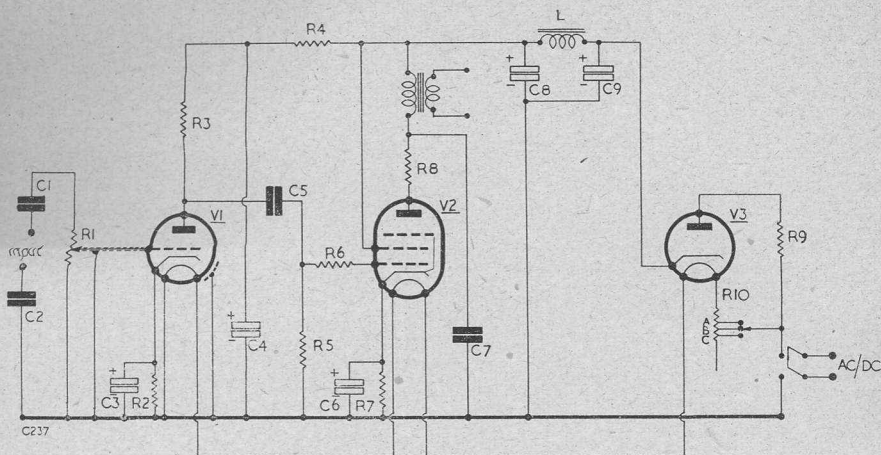

Fig. 1. Circuit of amplifier, and component valves, etc.
Fig. 1. (A) Showing the conventional fullwave rectifier circuit. (B) A typical AC/DC rectifier circuit. The resistor is used instead of a choke in order to save space and also for economy. (C) A fullwave rectifier circuit in which the smoothing choke (or speaker field) is inserted in the negative line. The voltage dropped across this component is often used for bias purposes in the receiver.
The components in the H.T. power circuit most liable to give trouble are the H.T. smoothing capacitors. Fig. 1 gives a few typical arrangements often met in practise. In each case it is very probable that one or both of the electrolytic capacitors may have become "dry" or open-circuit. They may also have a partial short-circuit, but, unless this is excessive, the set will continue to play with reasonable volume.
If more than two electrolytics are encountered in the power supply circuit, the extra ones should also be checked, as the set may have double smoothing. Always ascertain that the individual negative and positive of each smoothing capacitor is correctly identified for checking purposes, as the capacitor negatives do not always go to chassis. See Fig. 1 (c).
The circuit, see Fig. 1, is straightforward and is designed around valves of the 0.2A-heater, "British" type, as these require relatively high heater-voltages; with only three valves in circuit, the volts to be dropped by the ballast-resistor might otherwise be excessive for a normal type of component.